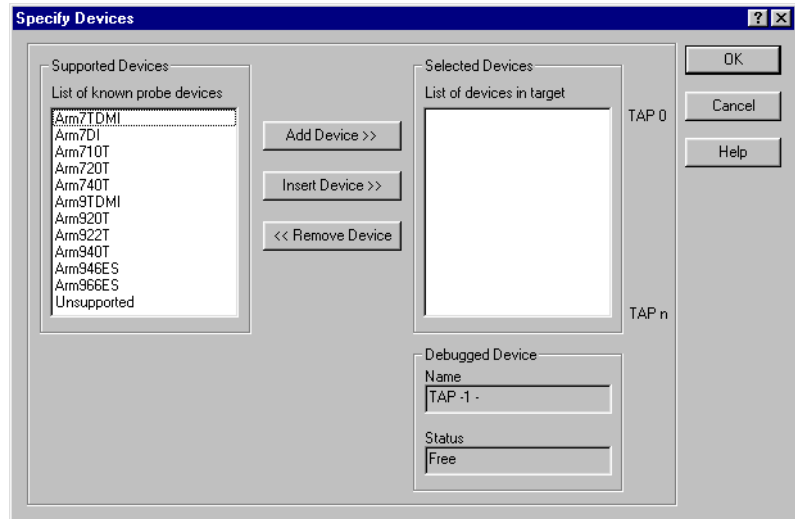

Figure 2-6 Gateway Configuration, Specify Devices dialog
4. Click on the **Specify Devices** button to display the Specify Devices dialog displayed in Figure 2-6 on page 2-8. If you: